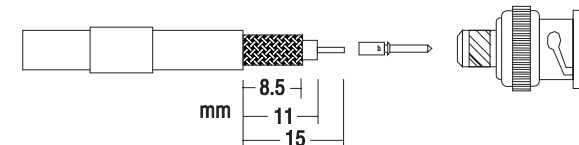

Figure 4 Antenna Connector Assembly
2. Terminate the free end of the cable with the BNC crimp plug supplied, as shown in Figure 4: